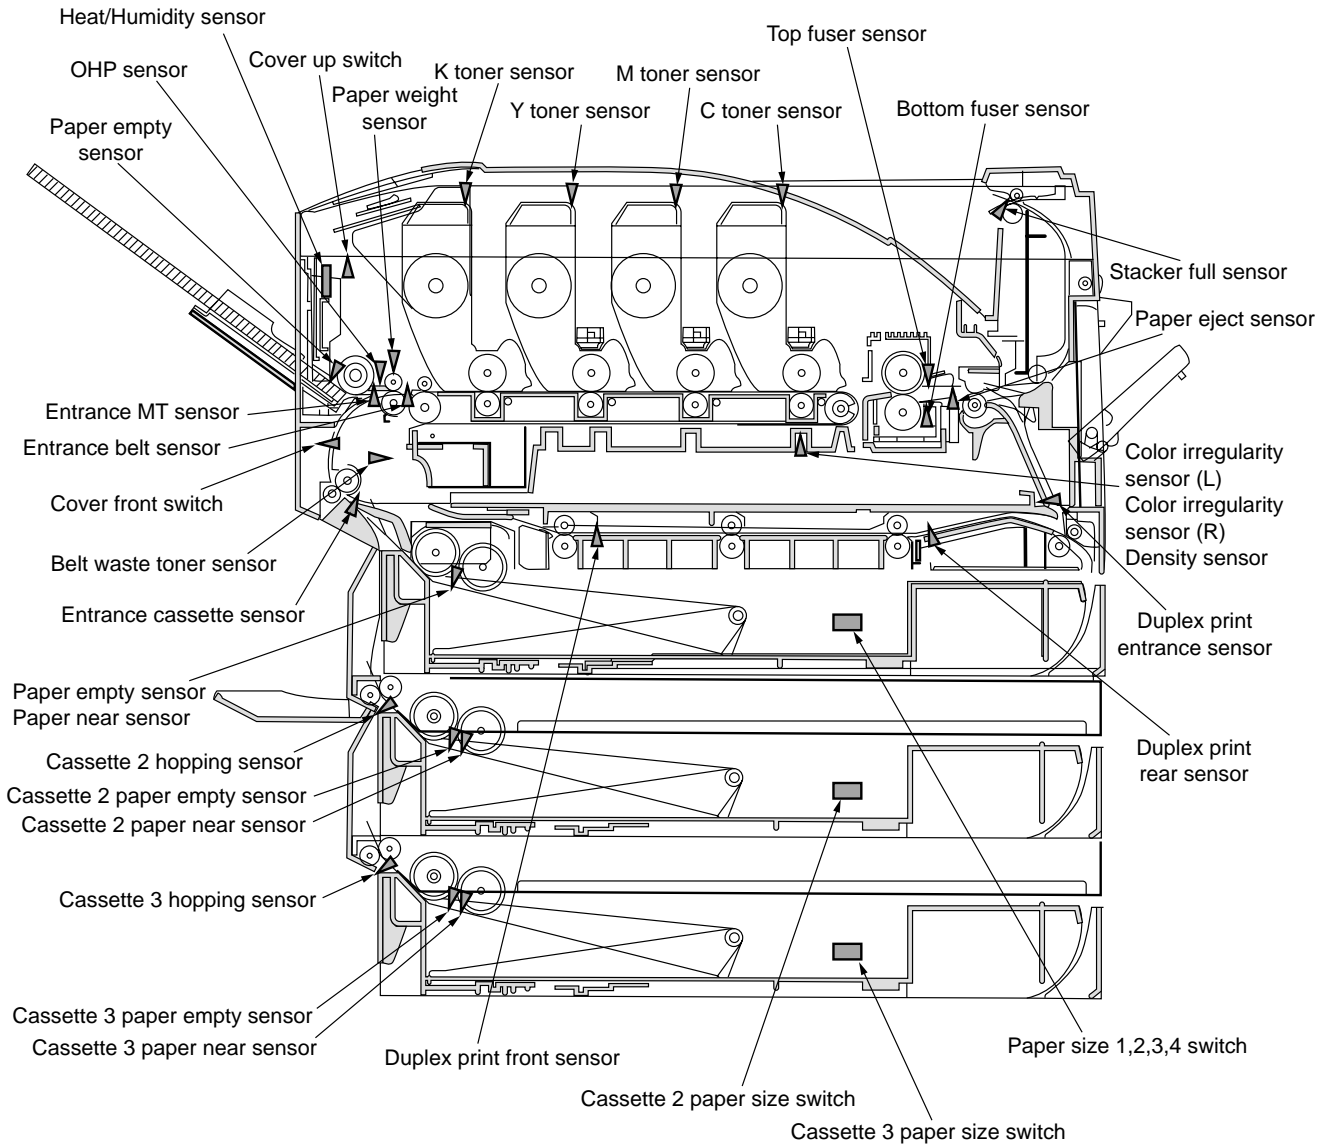

Figure 3-1 Switch Sensor Position
3. The test starts by pressing the **3** key. The SWITCH SCAN number begins to blink and the number of the corresponding unit (1-4) is displayed along with the current status. Manipulate each unit (Fig 3-1). The items are displayed in the LCD that corresponds to each item. (The display differs for each sensor. See Table 3-1 for details.)